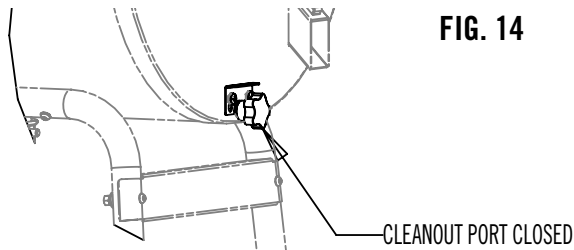

FIG. 14
1. Clean-out Port knob must be pushed in when grill is on. Make sure pullout lock is pushed down and locks the knob to prevent inadvertent opening of the clean-out port. See Fig 14.